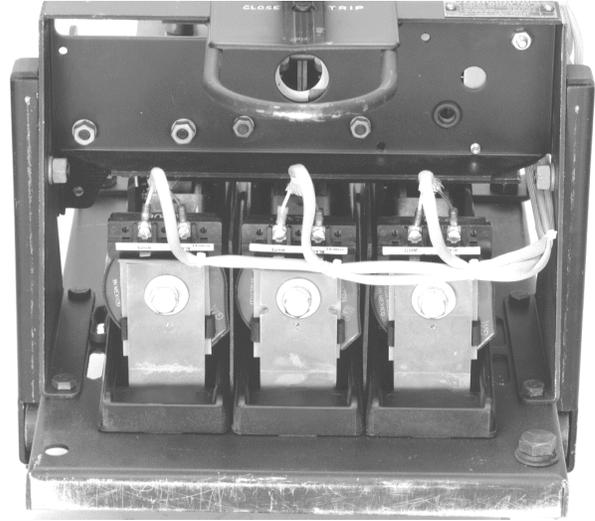

Figure 16. Installing the wiring harness.
2. Run the CT leads through the inside of the breaker frame, as shown in Figure 16. Connect the harness leads to the screw terminals on each CT. The black wire (tap) connects to the left terminal and the white wire (common) to the right terminal.
3. Use the wire ties provided to tie the harness back against the frame. Tie the harness to each CT assembly, as shown in Figure 16. Ensure that the wiring will not interfere with any moving parts.